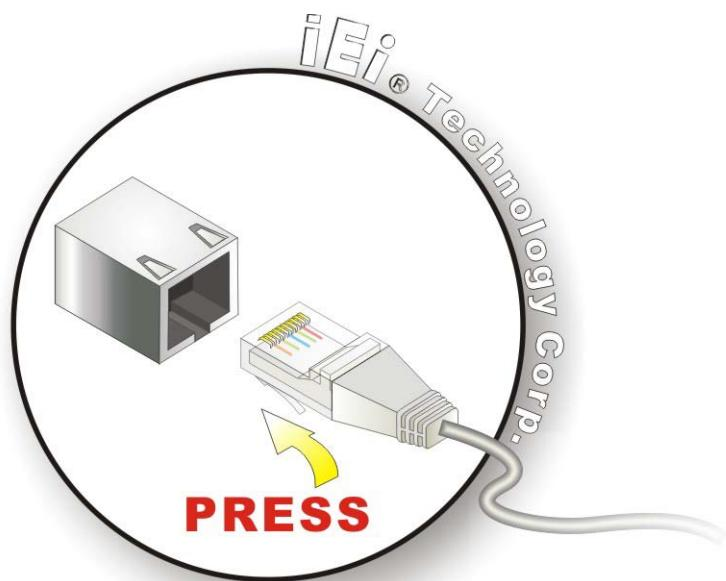

Figure 4-7: LAN Connection
Step 2: Align the connectors. Align the RJ-45 connector on the LAN cable with one of the RJ-45 connectors on the KINO-CVR-D25502/N26002. See **Figure 4-7.**